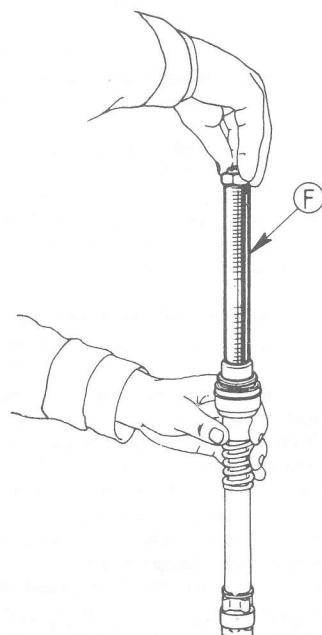

FIG 8:6 Installing the special spacer F on the shock absorber rod during assembly
- 2 Install the special spacer F (see FIG 8:6), on the rod of the rod-piston-and-bearing assembly and compress the rod seal spring by tightening the nyloc nut until the cup 3, of the rod seal is tight on the bearing. This is necessary to avoid distortion of the backing washer 1, when tightening the castellated nut, which would result in damage to the rubber O-ring.
- 5 Engage the assembly into the cylinder and push down slowly until the bearing spacer 10 (see FIG 8:5), is correctly positioned on top of the cylinder and shock absorber body. The spacer should be 3 to 3.5 mm (.118 to .138 inch) above the threaded body. On 404 models prior to 4.016.997 this figure should not